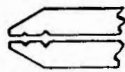

Fig. 10
K. & D. second hand holder, with the jaws filed away, as shown in Fig. 10, is very convenient; we may grasp the pallet or pallet staff with sufficient firmness; possibly needing to hold a finger against the edge